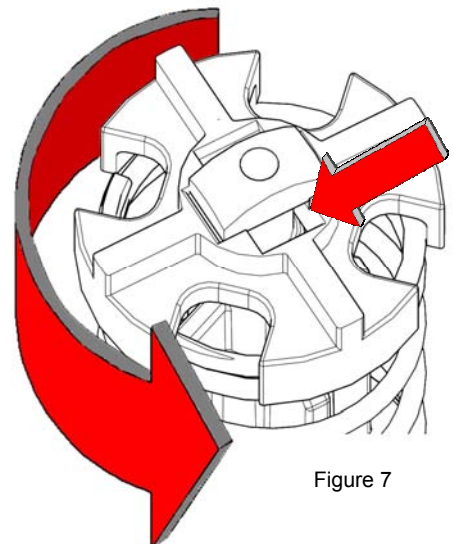

Figure 7
3. Rotate the Bypass Valve Retainer 90 degrees clockwise and allow the spring to gently push it back up to contact the locking tab. The locking tab **MUST** be seated in the indentation in the Bypass Valve Retainer (Figure 7).